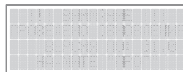

Figure 32.
16. A window will appear on the controller display (see Fig. 32);